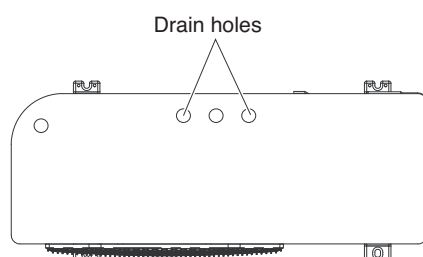

Fig. 5b
- provide a solid base (level concrete pad, concrete block, 6" x 1'4" (15 x 40 cm) beams or equal), a minimum of 6" (15 cm) above ground level to reduce humidity and protect the unit against possible water damage and decreased service life. (Figs. 5b and 5c)